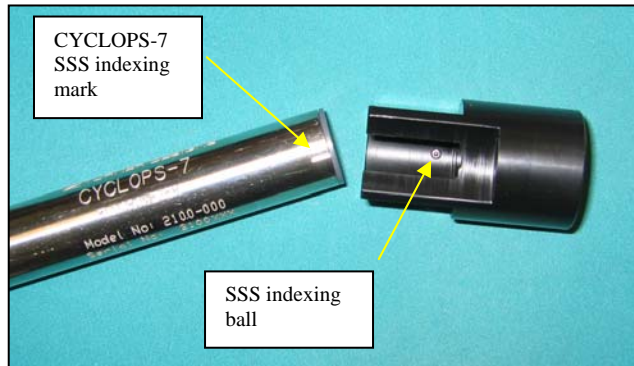

Figure 3.
1. Before installing the SSS you must ensure that the optical surface of the CYCLOPS-7 is completely clean and dry. The SSS is indexed and it must be installed so that the indexing is precisely aligned for proper use (see Figure 3).